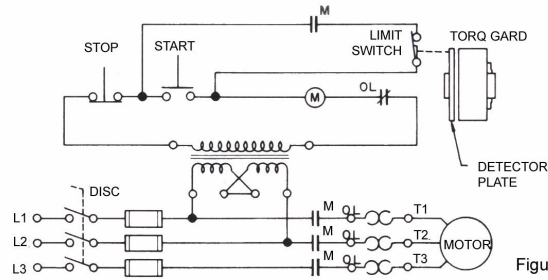

Figure 3
**Note:** Refer to Figure 3 "Typical Wiring Diagram". Limit/prox. switches are available with additional contacts to further actuate warning alarm systems.